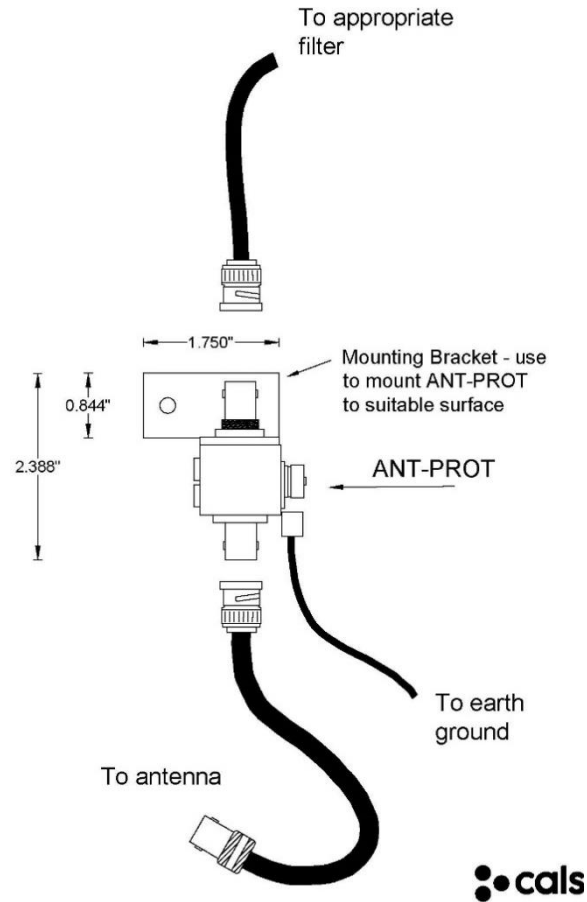

Figure 16 - Antenna cable surge protector wiring detail
The Calsense Antenna Cable Surge Protector (model ANT-PROT) helps protect the radio equipment and the radio frequency (RF) filter from lightning strikes (Figure 16). Stick and Yagi antennas require an ANT-PROT, mounting bracket included.